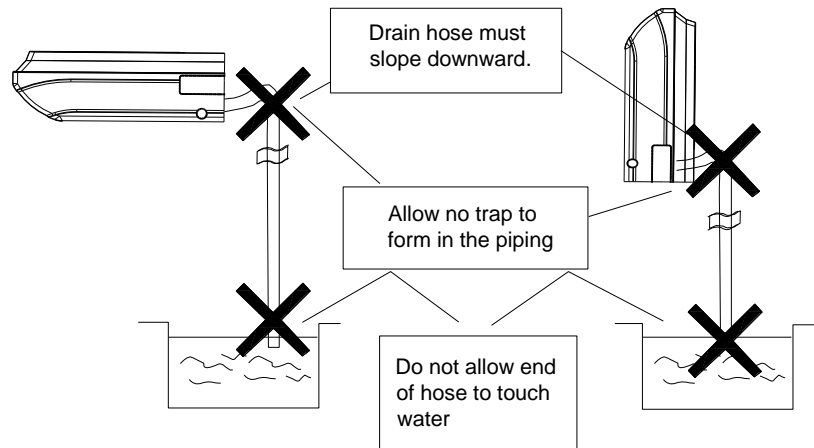

Figure 3-1-32
- (4) Connect the drain hose (Figure 3-1-32).